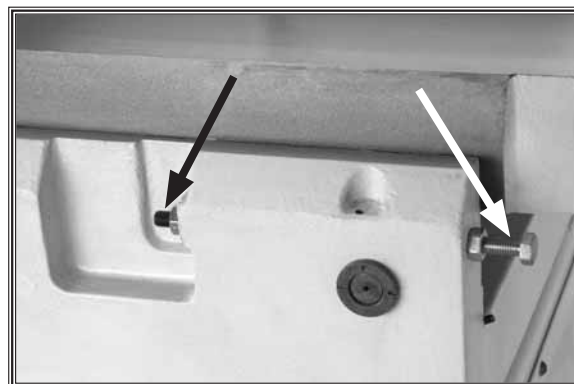

Figure 43. Table positive stop bolts.
3. Loosen the outfeed table lock located at the front of the machine, and loosen the jam nuts and adjustment bolts located at the back of the machine (see **Figure 43**).
4. Loosen the outfeed table lock located at the front of the machine, and loosen the jam nuts and positive stop bolts located at the back of the machine (see **Figure 43**).
6. Tighten the outfeed table lock located at the front of the machine, and tighten the positive stop bolts and jam nuts located at the back of the machine (see **Figure 43**).